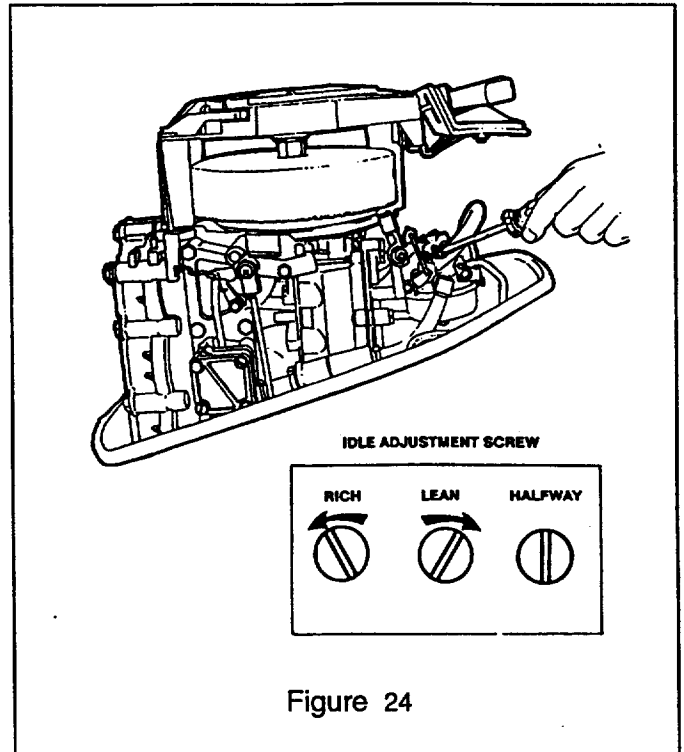

Figure 24
- Turn idle adjustment needle in, clockwise, until it seats lightly (Figure 24).
- Turn idle adjustment needle slowly open, counterclockwise, until motor loses power and begins to roll do to an over-rich mixture. Note this position (Figure 24).